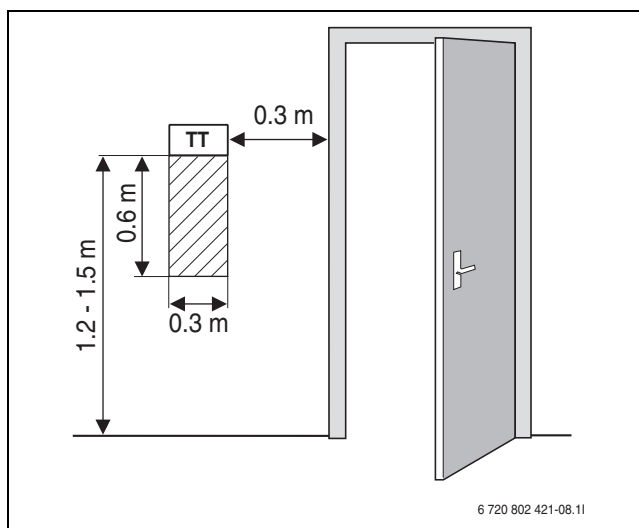

Fig. 24 Recommended installation location for room temperature controller
- Unimpeded circulation of room air under room controller (dotted area in fig 24 must be kept clear) this also includes a minimum of 1m from a radiator.